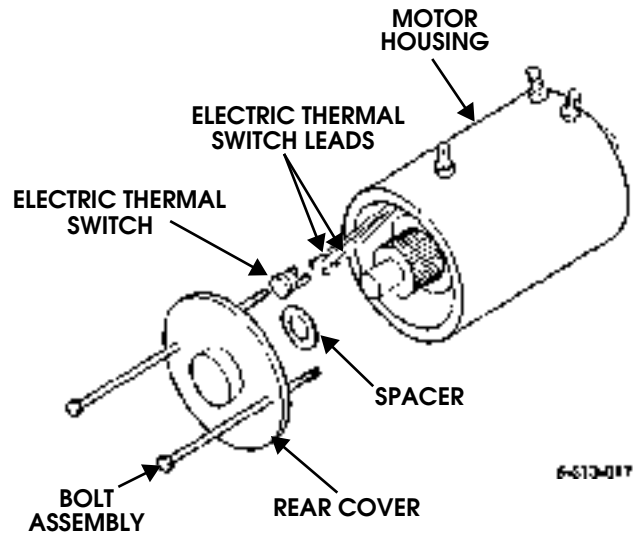

Figure 13-23: Motor and Gasket
- Coat head of electric thermal switch with lubricant and connect to two electric thermal switch leads (Figure 13-23).